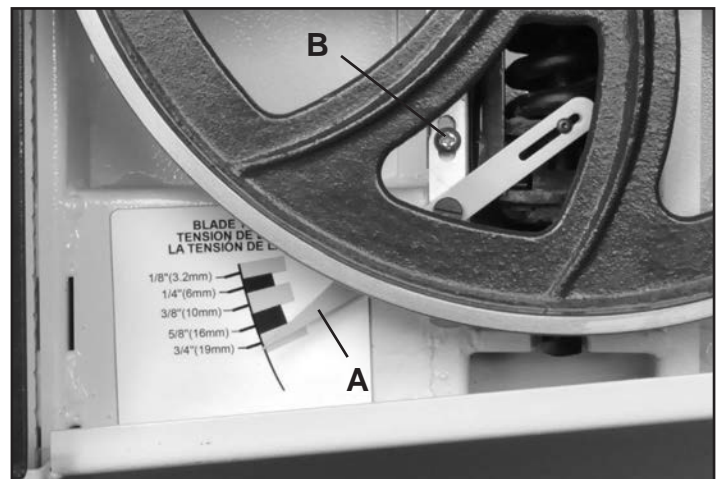

FIGURE 19
To tighten the tension of the blade, turn the hand wheel clockwise. Tension the blade until the Tension Indicator Arrow (#19A, Fig. 19) corresponds to the width of blade you are using. View the indicator Arrow through the top door’s front window. Fig.18.
The Blade Tension Indicator Arrow (#19A, Fig. 19,A) should be checked and adjusted the first time the saw is set up and run, and whenever a new blade is installed.
1. With moderate tension on the blade, loosen the adjusting Screw (#17A) with a Phillips-head screw driver (Fig.19, B).